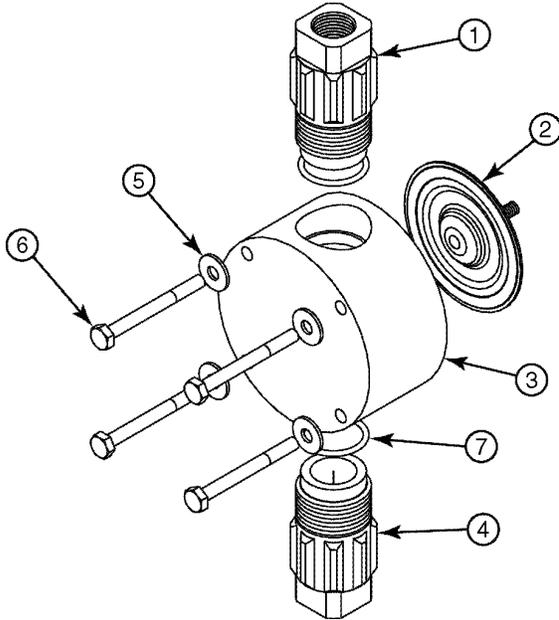

*Figure 4*
2. Remove the side cover from the pump. Refer to *Figure 4*.